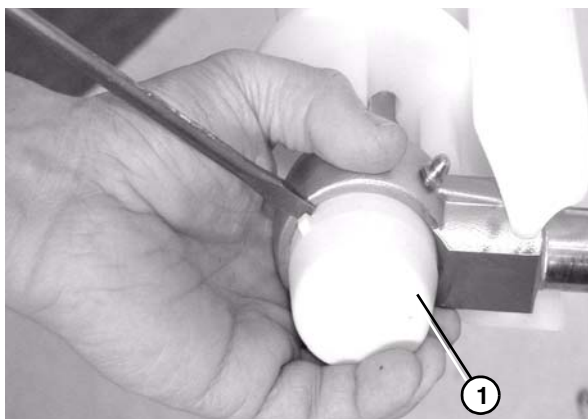

Figure 67
- Remove the bearing cover (**Figure 67, item 1**).
6. Attach the bearing covers. Reference (**Figure 67**).
5. Replace the bearing. Reference (**Figure 67**).